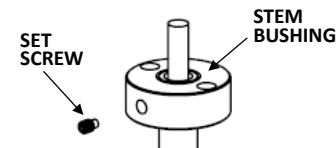

Fig. 4
- Attach STEM BUSHING to STEM as shown in Fig. 4.